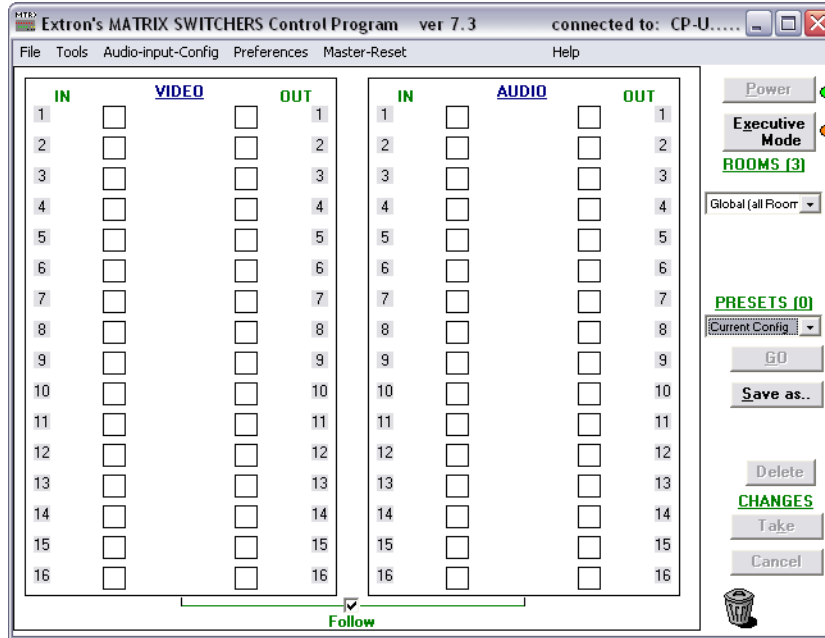
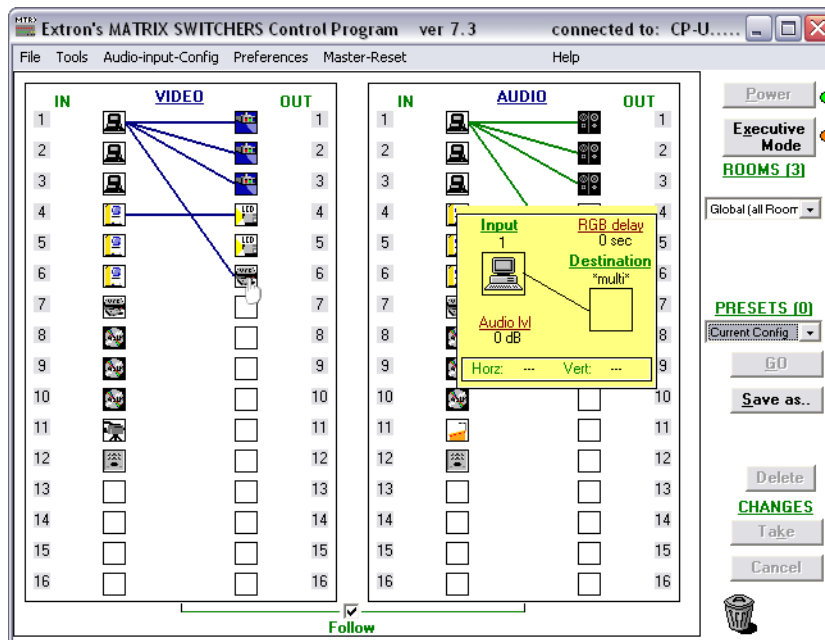

Figure 67. Extron Matrix Switchers Control Program Window (no Icons or Ties)
Figure 68. Sample Matrix Switcher Control Program Window (Icons Assigned and Ties Created)
Click **OK** and proceed to step 4. The Extron Matrix Switchers Control Program window (see **figure 67** and **figure 68** on the next page) appears, displaying the current configuration of the attached matrix. Proceed to step 4.
- c. Click **Connect**. The Extron Matrix Switchers Control Program window (see **figure 67** and **figure 68** on the next page) appears, displaying the current configuration of the attached matrix. Proceed to step 4.
- For quick display of information on a specific input or output device, position the cursor over that device in the control program window. The program opens a window that details the connection to that device (see the inset box in **figure 68** on the previous page).